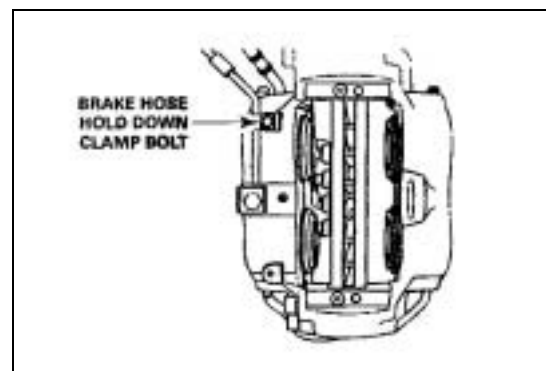

Figure 6
3. Remove the brake hose hold down clamp bolt, if equipped. **Figure 6.**